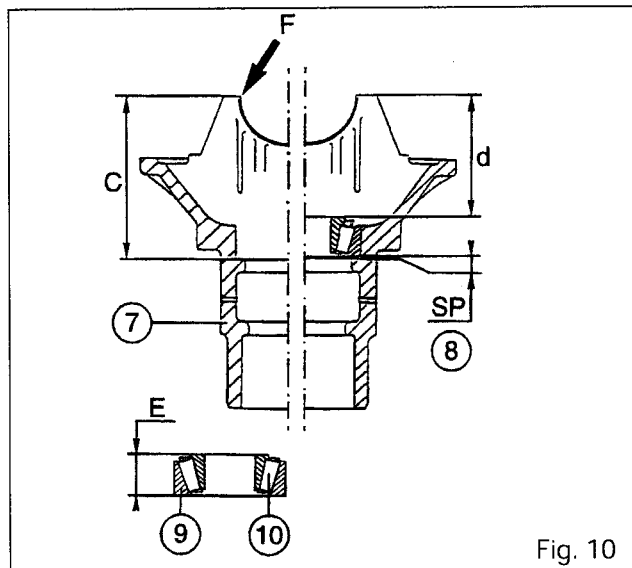

Fig. 10
38. Adjust the position of the drive pinion (Fig. 10). The thickness of the shims required to position the drive pinion correctly is calculated using the following formula: